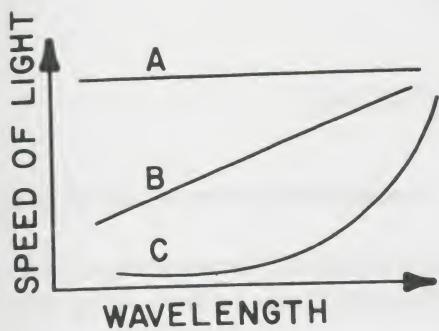

Figure 55.
6. Suppose that there were substances A, B, and C that had a speed-of-light versus wavelength dependence as shown in Figure 55. If prisms were made from each substance, how would they disperse the light?